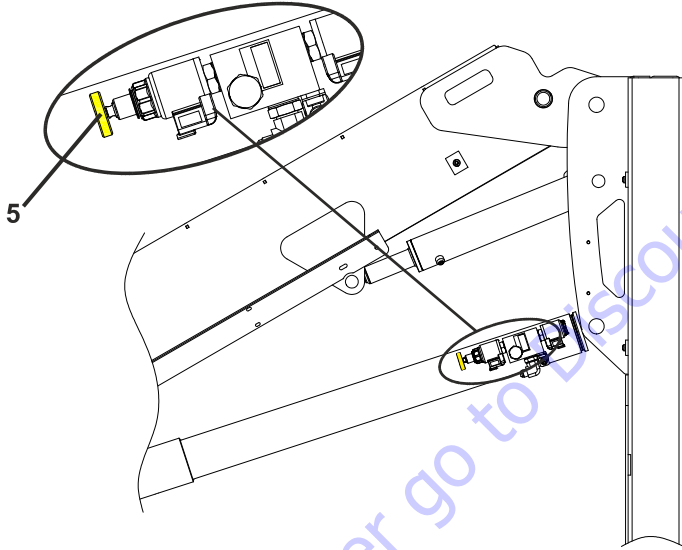

Figure 3-7. Boom Manual Descent Valve
3. To lower the boom once the mast is fully retracted, pull the manual descent valve, override button (refer to Figure 3-7). Release the button when the platform is lowered to the desired level.